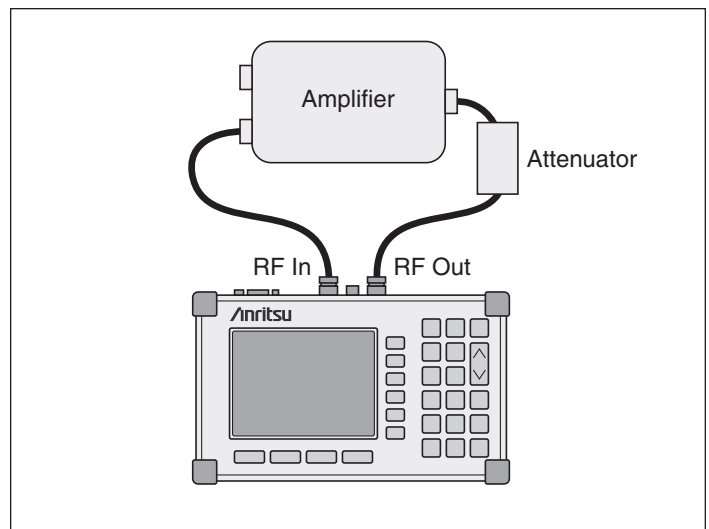

Figure 10. Transmission measurement connections for an amplifier.
2. Connect the amplifier between the RF Out port of TM Option 21 and RF In port of the MS2711D as shown in Figure 10.